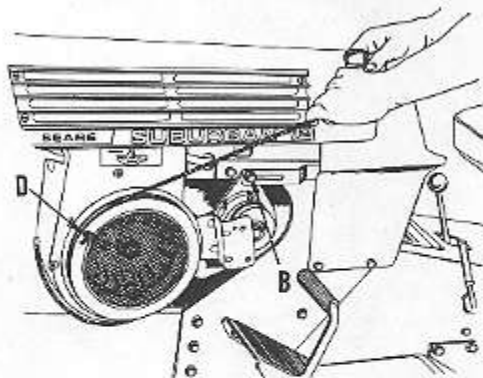

FIG. 26
- b. Loosen nut (B, Fig. 26), and push motor-generator forward. This will take tension from V-belts. Remove belt.
- c. Secure a piece of rope and tie a knot in one end. Place this knot into notch (D), in engine pulley, refer to Fig. 26.
DO NOT REPLACE V-BELT OR GUARD WHILE ENGINE IS RUNNING. The above method of starting is only a means to get unit to nearest source of battery charging. **DO NOT** operate tractor any longer than necessary with V-belt and guard removed. Stop engine and replace as soon as possible. Be sure to have proper tension on belt, retighten nut (B, Fig. 26).